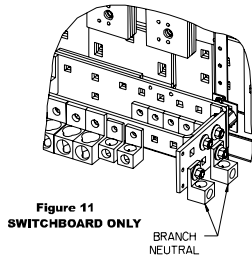

Figure 11
12. Reference fig. 11 - Installing the Branch neutral lug (item 18) in a Switchboard. The Branch Neutral is located at the bottom of the "Z-rails", or mirrored at the top depending upon the feed cable location. Two (2) different Neutral lug assemblies are included in the kit, be sure to install the type pictured below. The Neutral lug assemblies can be mounted, as shown, on any available hole of the Branch neutral depending on the cable feed location. Torque all hardware as specified on the rear of the deadfront.